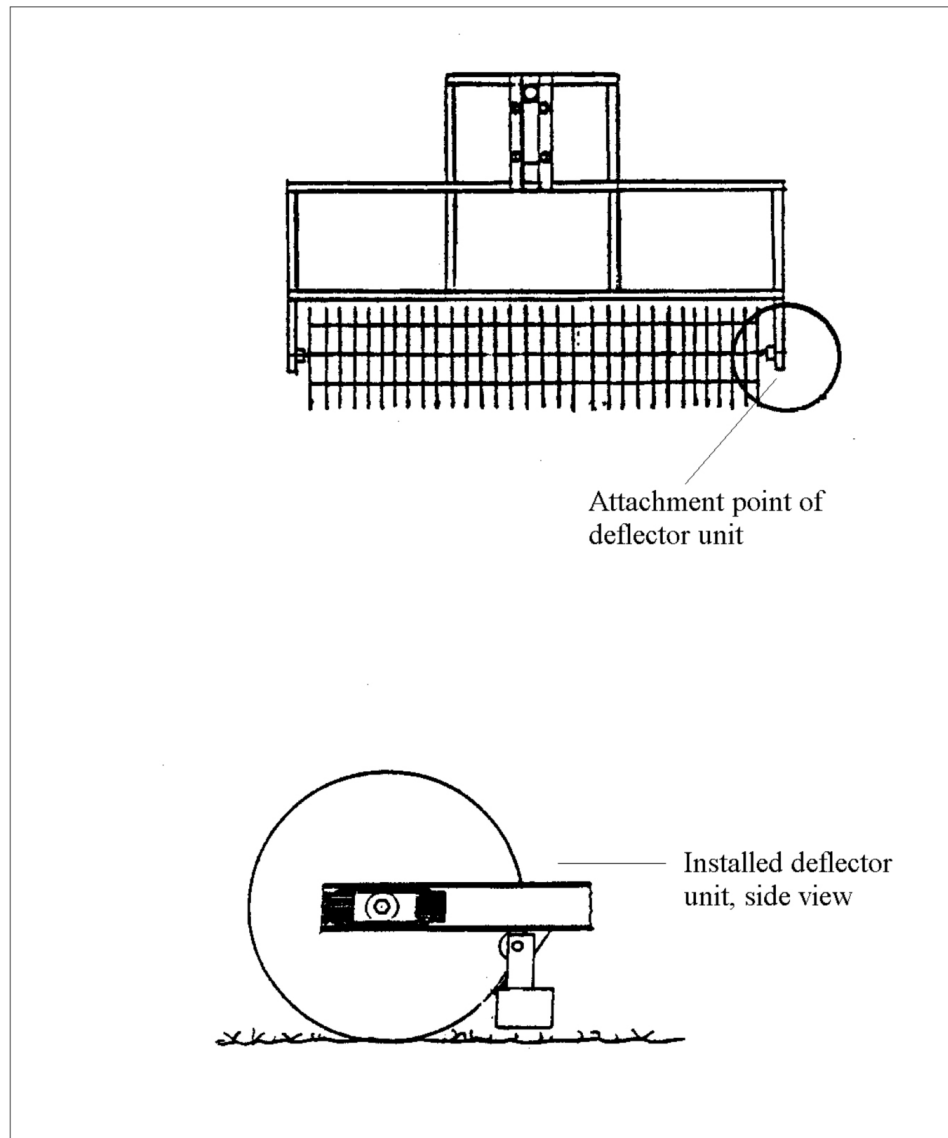

Figure 2: Ball Deflector Unit and Attachment, Enlarged View
- The ball deflectors go between the picker gangs (see Figure 2). For the 10-foot picker, there is one ball deflector. For the 15-foot picker, there are two ball-deflectors.